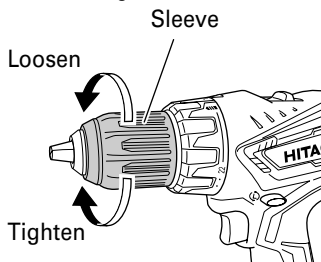

Fig. 5
- (1) Mounting the bit. Loosen the sleeve by turning it toward the left (in the counterclockwise direction as viewed from the front) to open the clip on the keyless chuck. After inserting a driver bit, etc., into the keyless drill chuck, and tighten the sleeve by turning it toward the right (in the clockwise direction as viewed from the front). (See Fig. 5).
- (2) Dismounting the bit. Loosen the sleeve by turning it toward the left (in the counterclockwise direction as viewed from the front), and then take out the bit etc. (See Fig. 5)